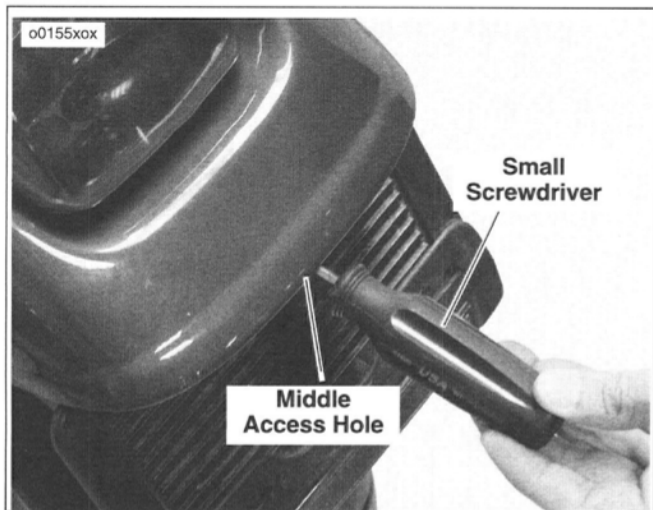

Figure 58. Tail Light Removal Access Hole
1. See Figure 58. Insert a small screwdriver into the **middle** hole of the license plate light cover. Push forward to release the spring clip on the tail light assembly.